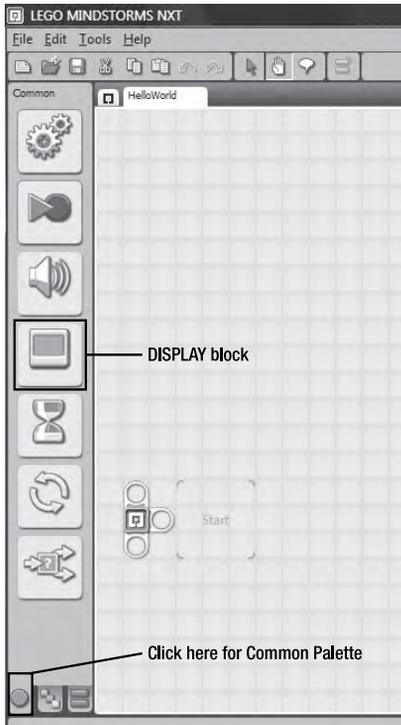

Figure 3-2. The HelloWorld program is open and ready for the DISPLAY block.
Figure 3-2 shows the new program opened (see the tab called HelloWorld in the upper left corner?) and ready for you to start dropping NXT-G blocks. The word “Start” appears on the work space beam, telling you where your first programming block will be placed.
■ **Note** If you don't see the Common Palette along the left side of the screen, click on the green dot indicated in Figure 3-2.